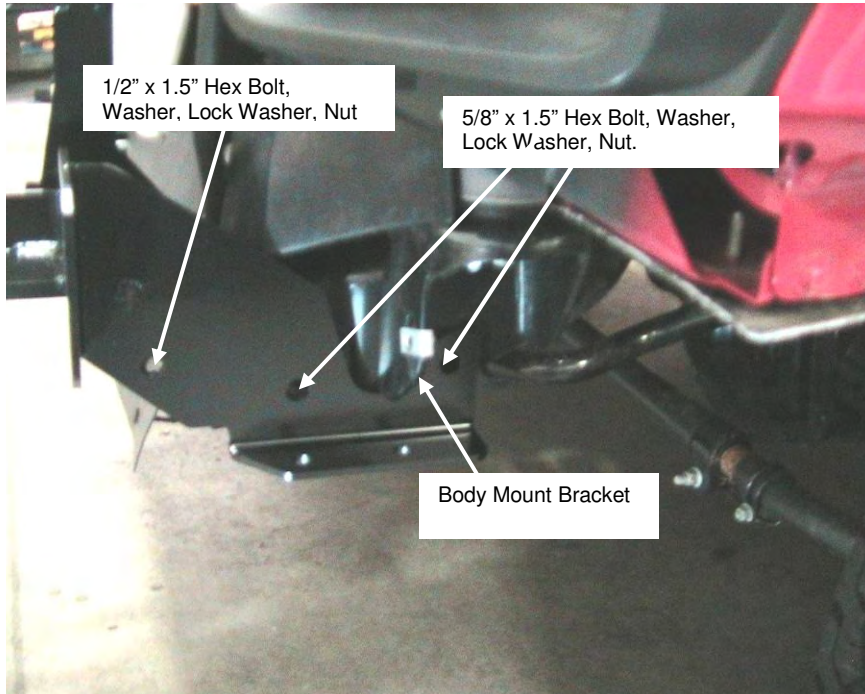
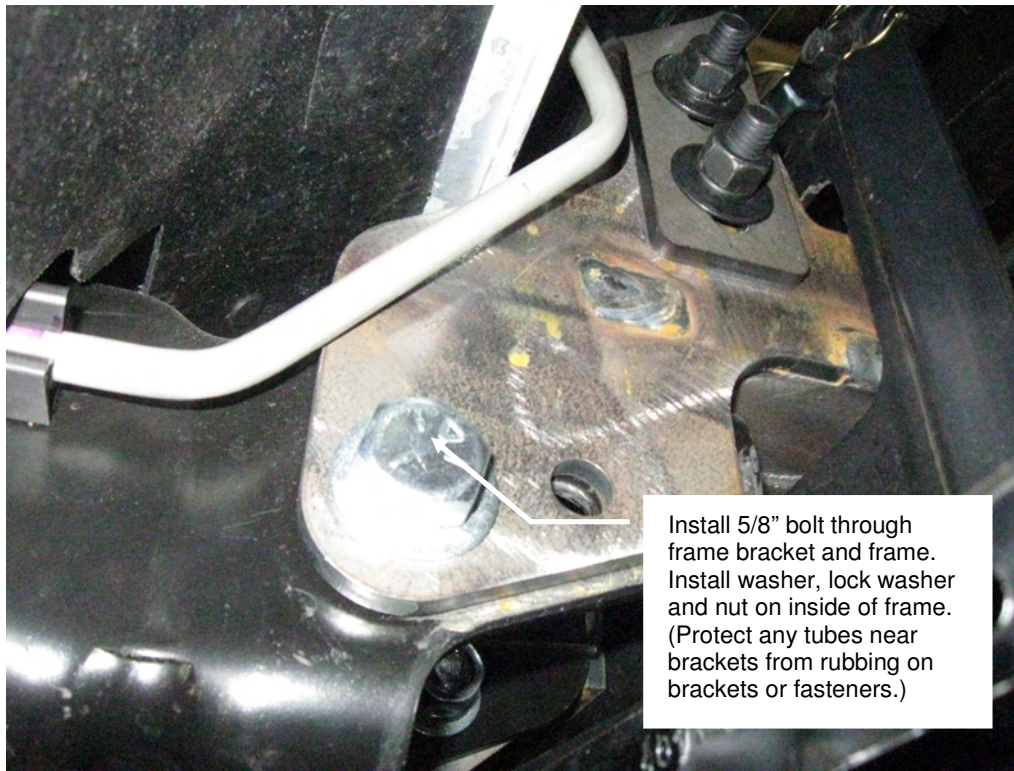

Figure 1: Placement of the Frame Bracket (Driver Side)
Figure 3: Frame Bolt Installation. (Passenger Side shown.)
1. Install the frame bracket on the driver's side frame by setting the bracket on the frame and tilting it back to allow the rear part of the bracket to slide past the body mount bracket. It may be necessary to lightly tap the frame bracket into place. Be very careful not to damage any vehicle parts while installing the brackets. Intercoolers and hoses are close to the brackets so care should be taken not to damage, kink, or cut the hoses during installation. Once the frame bracket is in place and holes are lined up with the holes in the frame, repeat for passenger's side frame. (See figure 1.)
2. Install fasteners as shown in **Figure 1, 2 and 3**. Do not tighten any fasteners until instructed to do so.
3. Install all of the fasteners as shown in **Figure 1 through Figure 3** for both sides of the vehicle frame. Torque all of the fasteners to their specified rating.